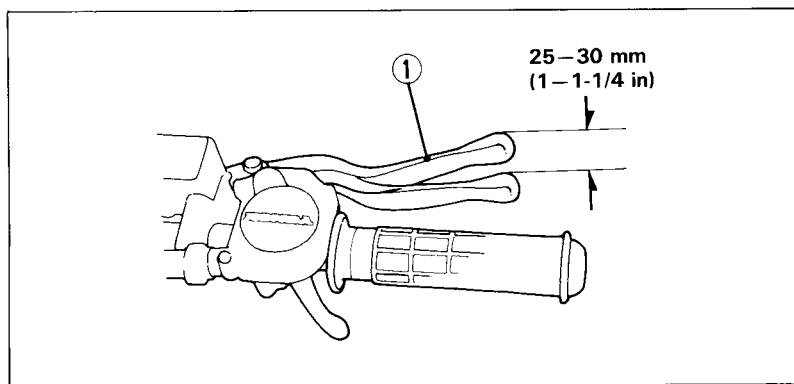

Fig. 4-21
1. Measure the distance the brake lever (Fig. 4-21) moves before the brakes start to take hold. Free play, measured at the tip of the front brake lever (1) should be within 25–30 mm (1–1-1/4 in).
(1) Front brake lever
2. Remove the inspection hole plug (Fig. 4-21) and measure the lining thickness (2) on both front wheels.